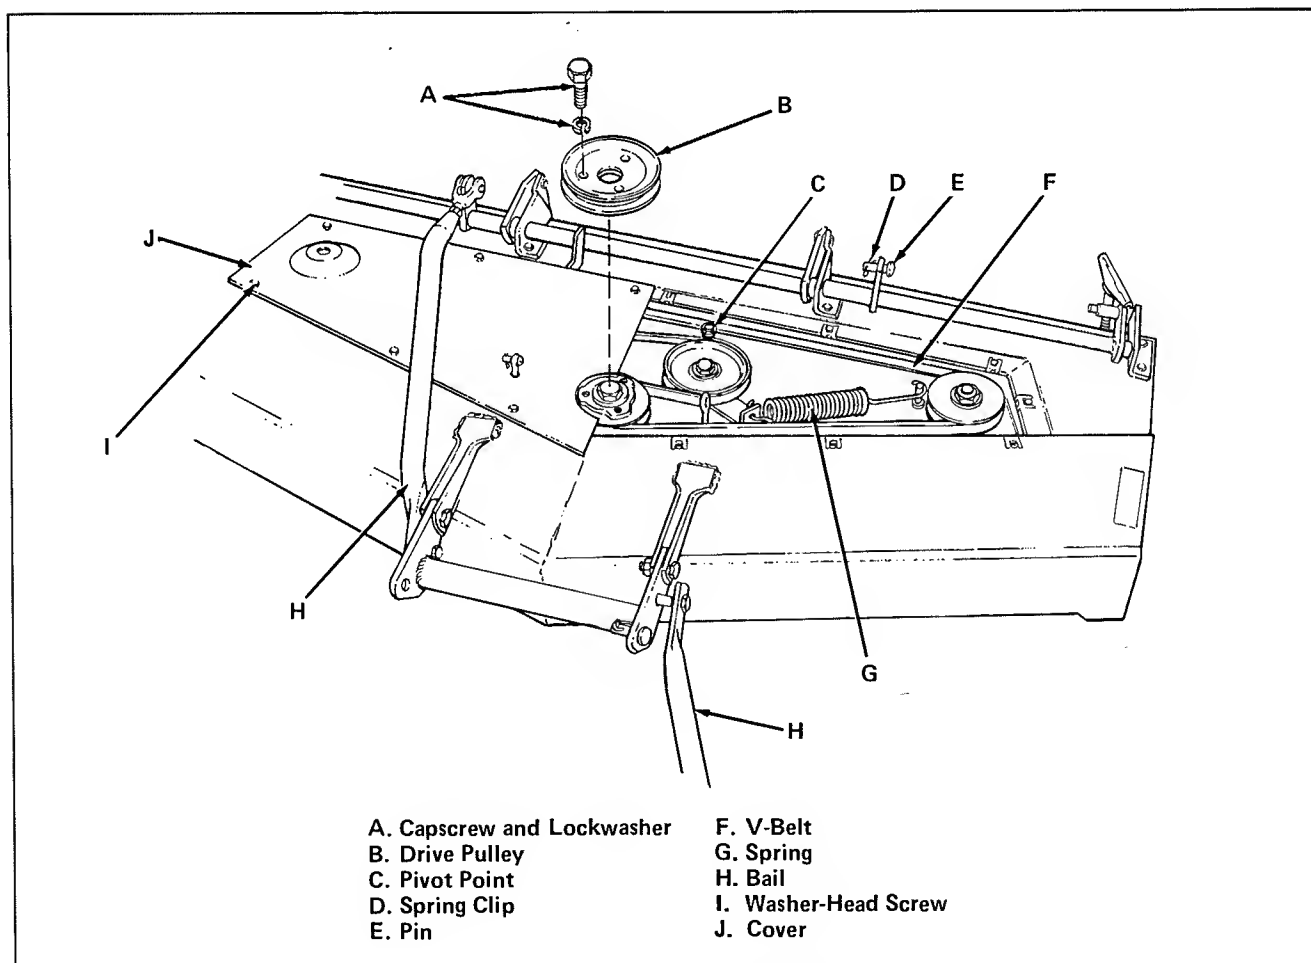

Figure 20. V-Belt Replacement
1. Remove three capscrews (item A, figure 20) with lockwashers and detach drive pulley (item B) from mower.